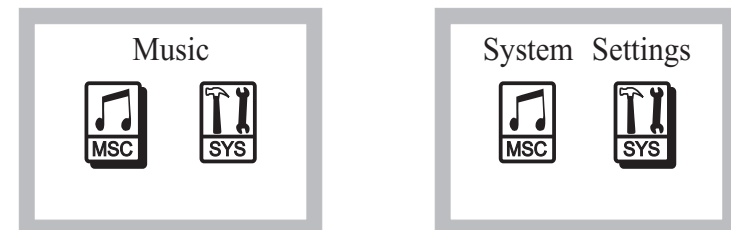

Fig. 10
(C) USB flash drive is not inserted, Fig. 10: